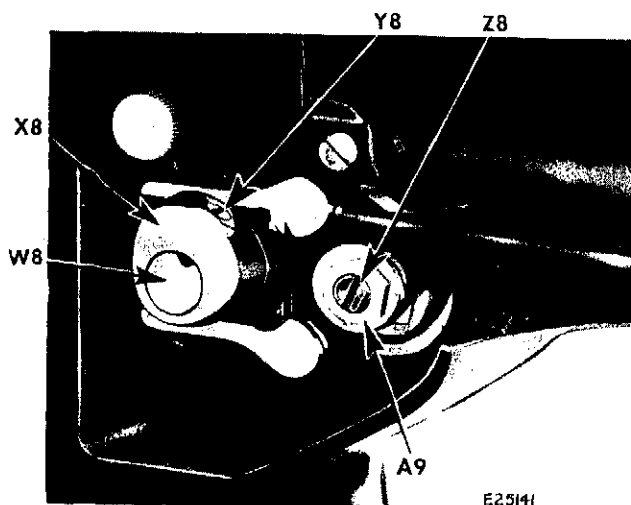
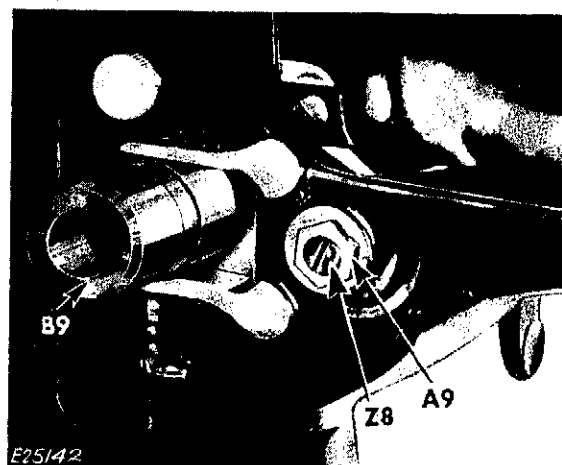

Fig. 162. Removing and Replacing Cam
Fig. 163. Using Gauge to Eliminate Needle Vibration
2. Select gauge Tool No. Serial 198351, and slip gauge on shaft as shown at **B9**, **Fig. 163**.
3. Loosen lock nut **A9**, **Fig. 162** on fulcrum stud **Z8**.
5. Hold fulcrum stud **Z8**, **Fig. 162** in position with a screwdriver to keep the correct setting obtained and carefully tighten lock nut **A9** with a wrench.
6. Remove gauge **B9**, **Fig. 163** and position cam **X8**, **Fig. 162** on shaft **W8** with set screw **Y8** over the notched shaft.
7. While pressing cam **X8**, **Fig. 162** toward fork, push gear in **Fig. 165** toward cam with a screwdriver to eliminate excessive play and noise. Securely tighten screw **Y8**, **Fig. 162** without binding machine.